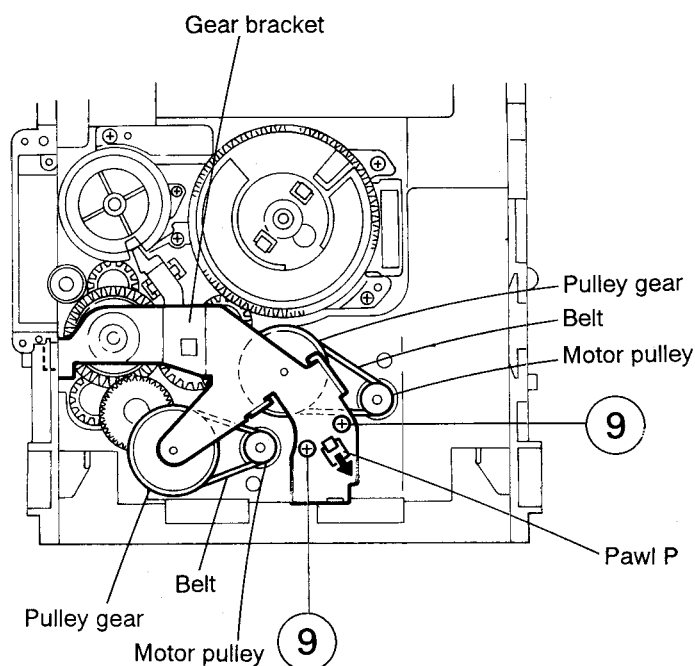

Fig. 5-33
(See Figs. 5-33~5-36)
1. Remove the two screws (9) retaining the gear bracket (See Fig. 5-33).
2. While pressing the pawl (P) fixing the gear bracket in the arrow direction, remove the gear bracket (See Fig. 5-33).
4. Remove the belts respectively from the right and left actuator motor pulleys and pulley gears (See Fig. 5-33).